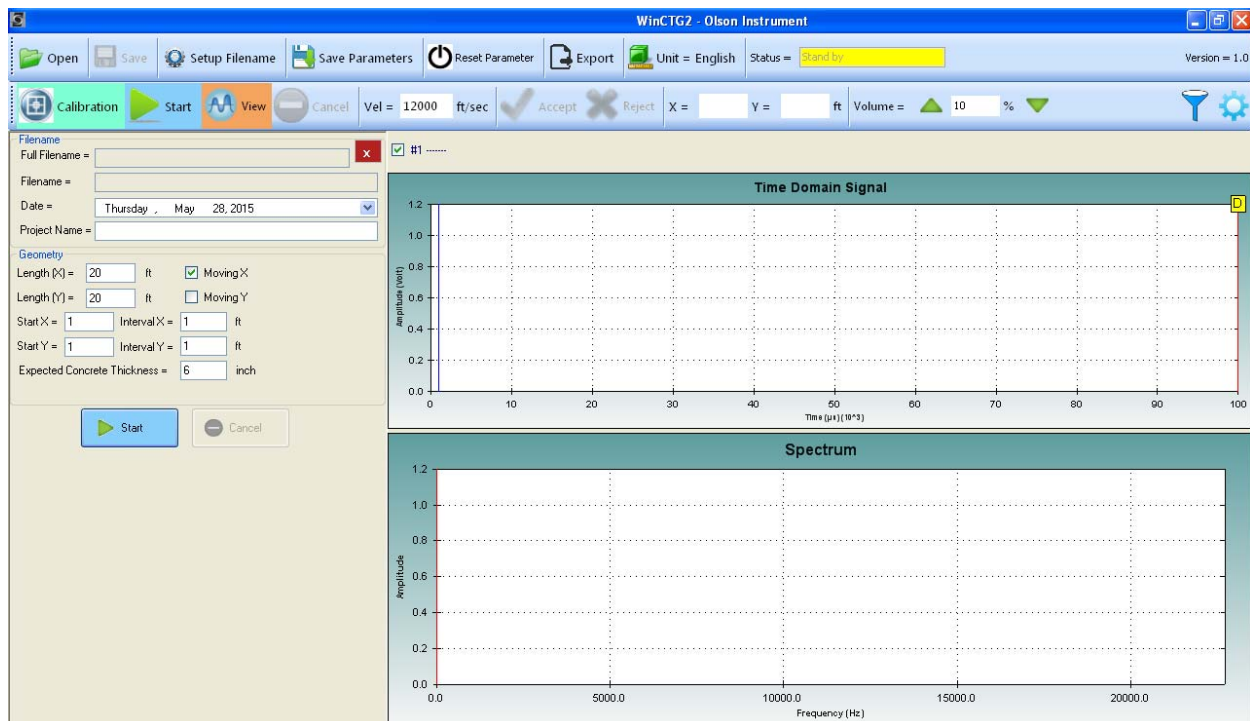

Figure 2 – Main Screen for WinCTG2 Software
1. Turn on your tablet or laptop (with the hardware connected as described in Section 2.0) and select the WinCTG2 shortcut on the desktop. The software will open as shown in Figure 2 below. Within the Waveform Data Panel, the top plot box shows the current time domain data and the bottom plot box shows the frequency spectrum. Per the "Status" field in the Main Menu, the program is currently in "Stand by" mode.